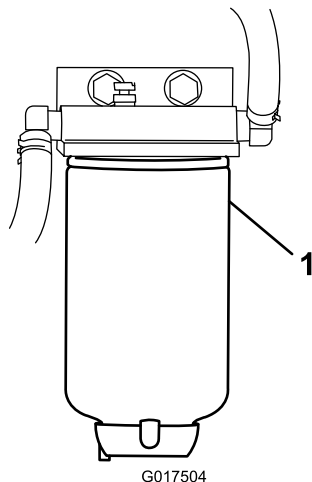

Figure 39
3. Unscrew the fuel filter from the bracket (Figure 39).